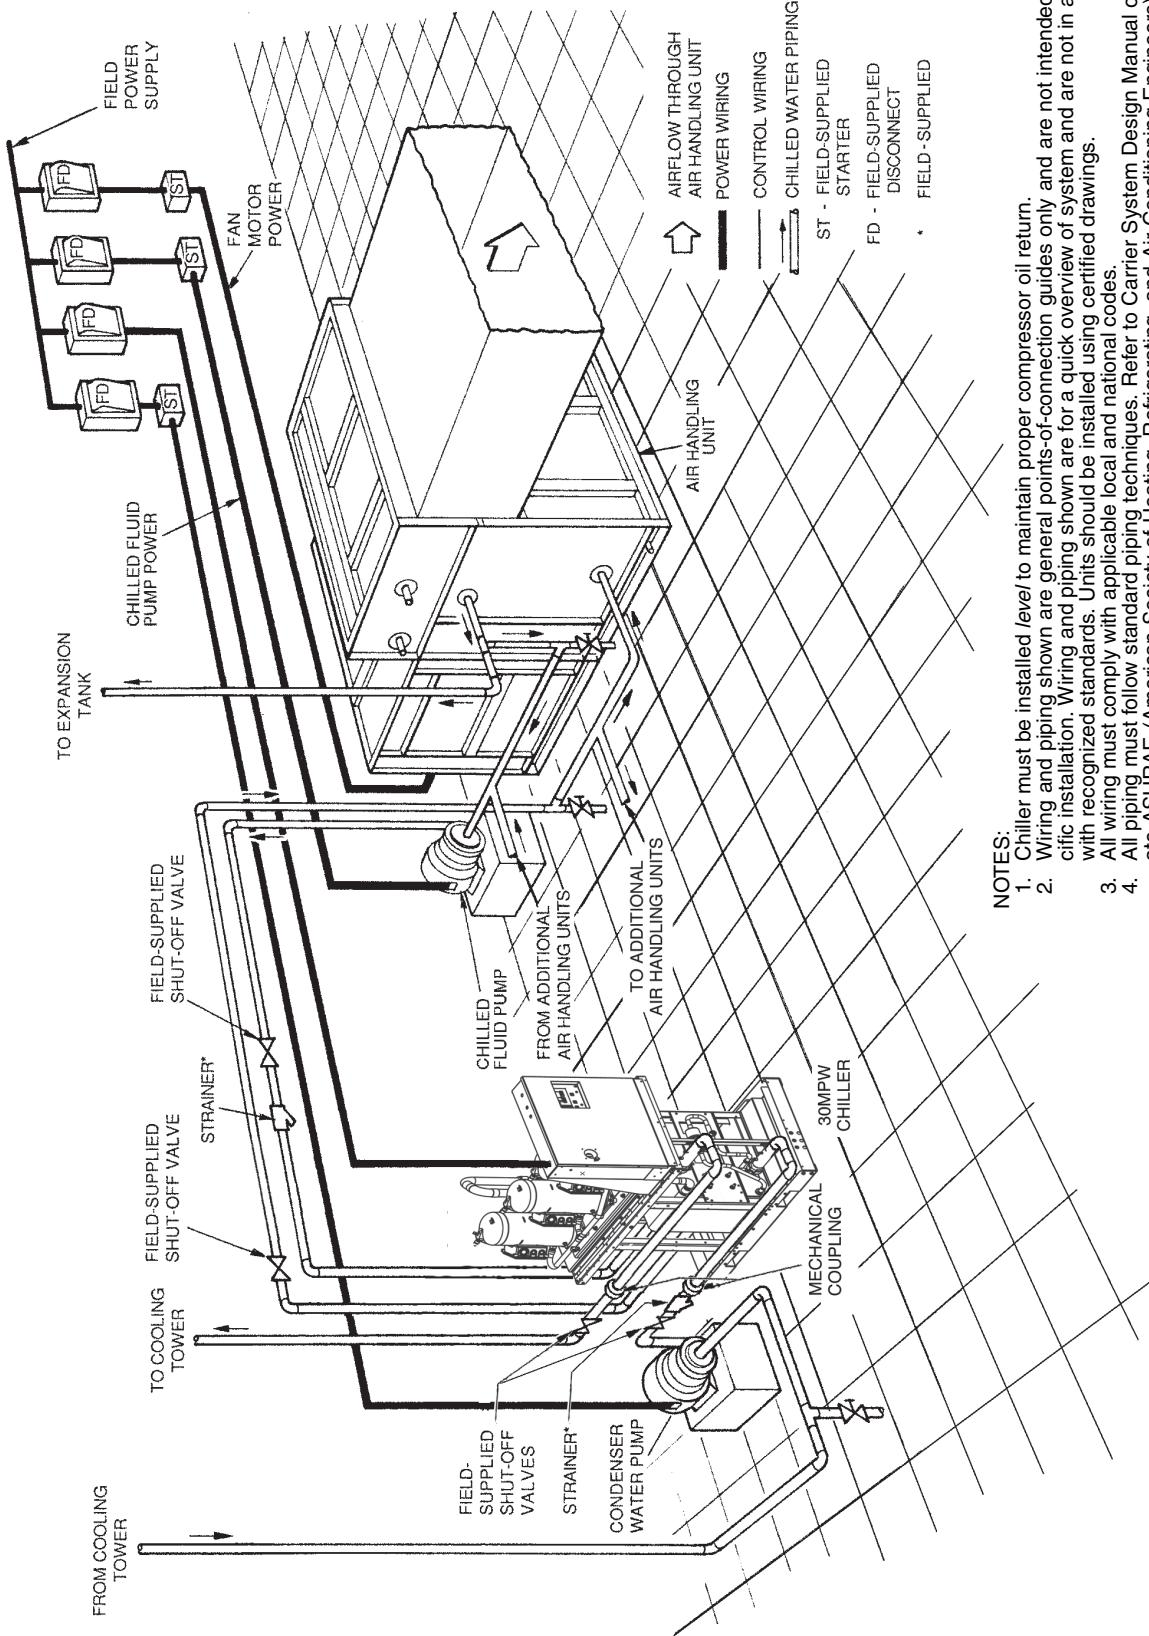

Fig. 8 — Typical Piping with Liquid-Cooled 30MPW Chiller
Step 5 — Make Piping Connections — See Fig. 8 and 9 for typical piping applications.